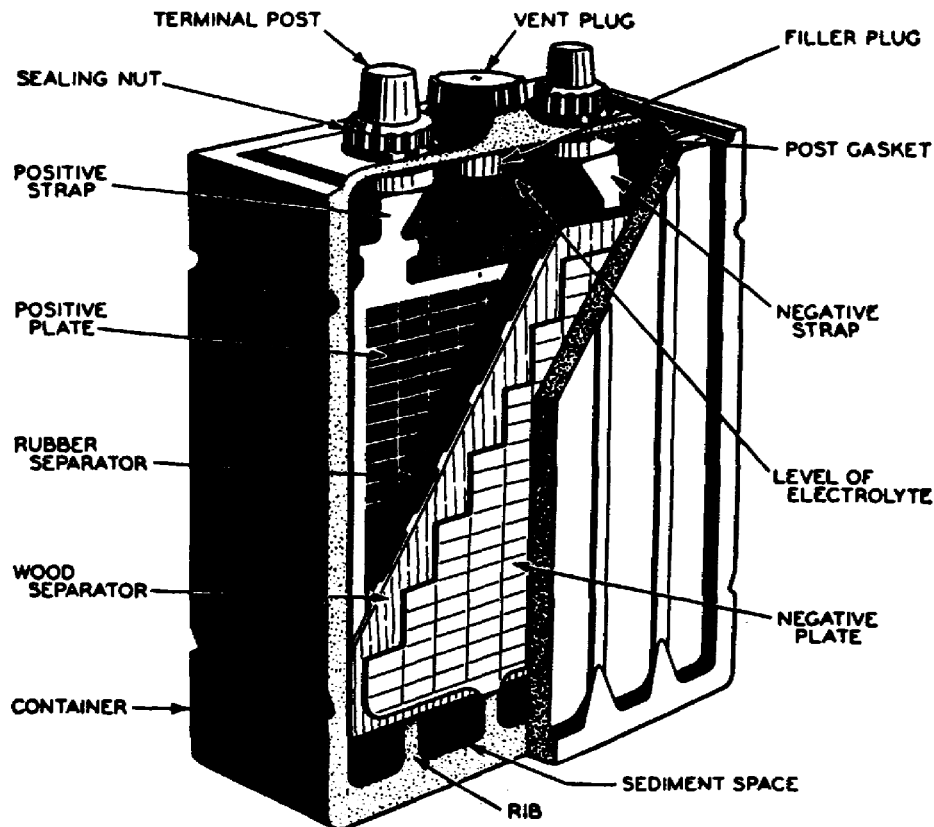

Figure 16. Cutaway view of single cell.
(5) Set the varidrive for 2,000 RPM as indicated on the tachometer (0-5,000 RPM scale).
(6) Check the speed of the high or low speed driving head using either a hand tachometer or stroboscopes of known accuracy. The tachometer circuit selector remains in the DIRECT DRIVE position during this check. The tachometer must agree with the hand tachometer or stroboscopes.
(7) Set the drive speed control clockwise (reducing variable drive speed).
(8) Depress the STOP button.
(9) Place the circuit breaker switch to OFF.
d. Several cells are connected in series to form batteries larger than 2 volts. Three cells are required for 6-volt batteries and six cells for 12-volt batteries. The cell terminals are connected by welding them to connector straps. Cells are placed in a one-piece container that is divided into compartments. Each compartment is the container for one cell. Figure 16 shows a cutaway view of a single cell. The element rests on raised ribs. The area between the ribs serves as sediment space. During use, the active material on the plates gradually sheds and falls into the sediment space. The container is constructed of insulating material which is resistant to acid corrosion and mechanical shock.